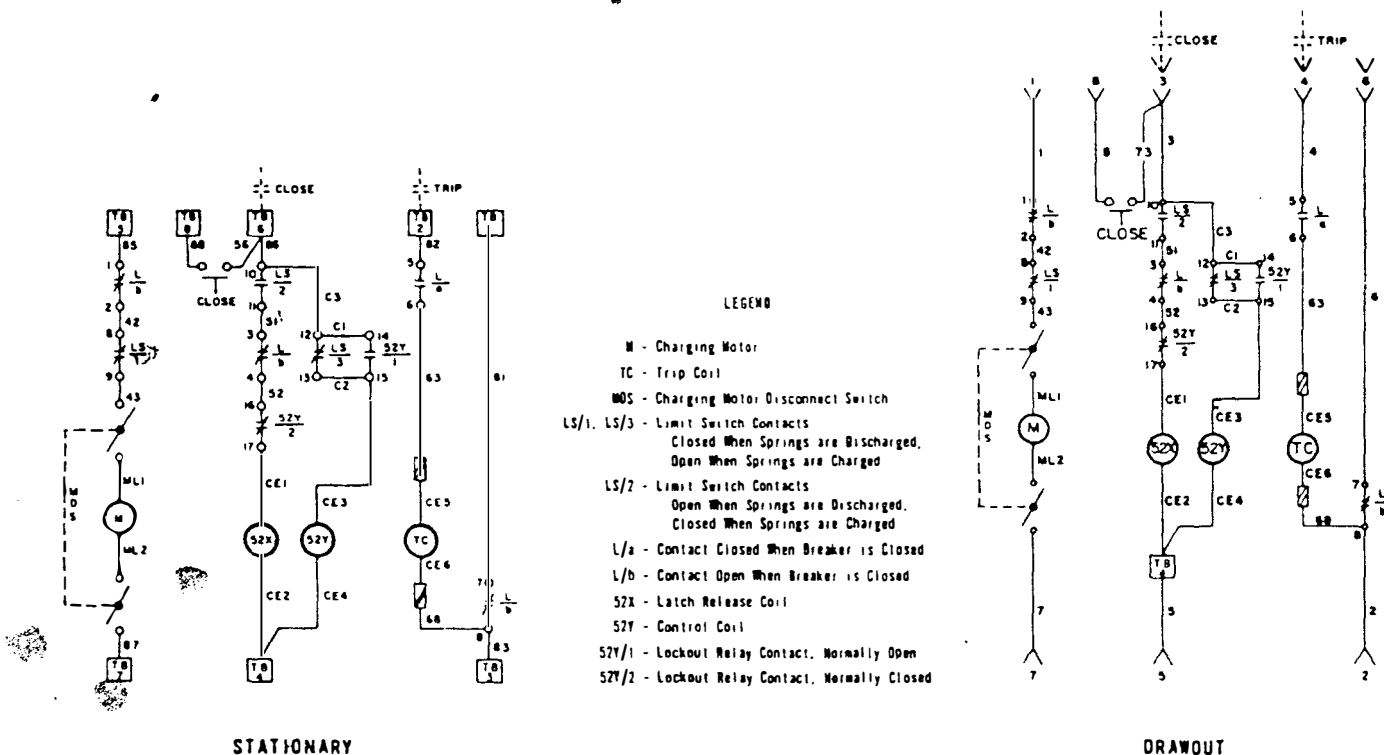

Fig. 2 — Typical Schematic Diagram of Control Circuit
The control device (Fig. 12) is furnished on electrically operated circuit breakers. The device is mounted below and to the left of the mechanism. The control device contains three electrical components, the limit switch (LS), the lockout relay (52Y), and the latch release relay (52X). The schematic diagram of the control circuit (Fig. 2) illustrates the function of this device. In addition to its electrical functions, the base of the device provides a terminal block for the circuit breaker wiring.
The auxiliary switches contain the "a" and "b" contacts (Fig. 2) and are furnished in 4 or 8 contact arrangements. They